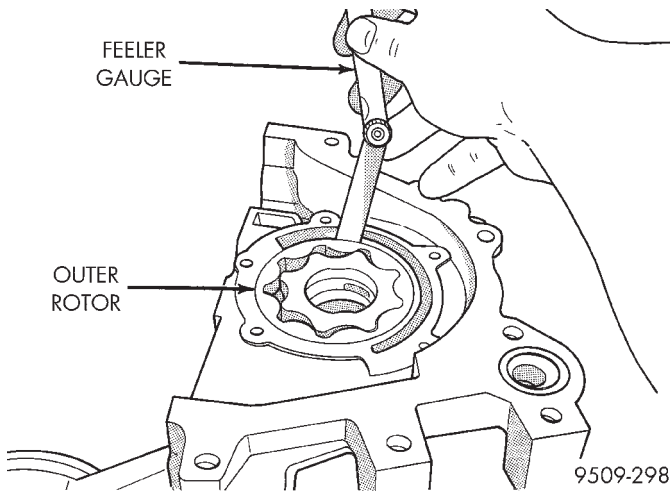

Fig. 103 Measuring Outer Rotor Clearance in Housing
(5) Slide outer rotor into pump housing, press to one side with fingers and measure clearance between rotor and housing (Fig. 103). If measurement is 0.39 mm (0.015 in.) or more, replace housing only if outer rotor is in specification.